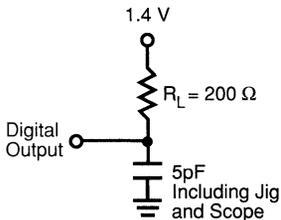

Figure 1c
5. Transition is measured ±200mV from steady state output voltage with $C_L = 5pF$ as shown in Figure 1C. This parameter is guaranteed and not 100% tested.